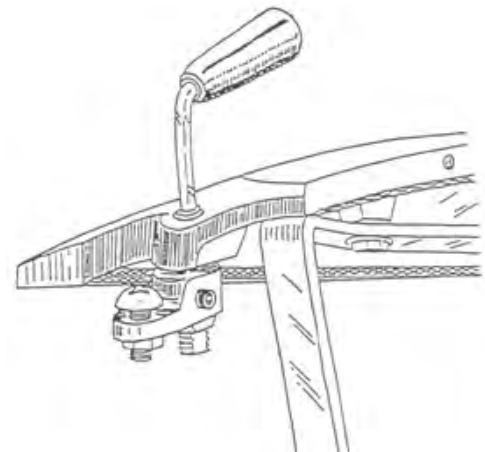

Fig. A-9 Ash Door Handle Assembly
STEP 33: Assemble and install the ash door. Screw the socket, button head cap screw into the stepped side of the pawl (see Fig.A-9). Thread the hex nut onto the end of the socket, button head cap screw and tighten finger tight against the flat side of the pawl. Screw the socket set screw into the handle shaft drilling of the pawl. Slide the ash door handle shaft through its drilling in the ash door. Slide the pawl onto the ash door handle shaft so that the pawl offset is opposite the handle curve (see Fig.A-9). Insure that the pawl is against the ash door and